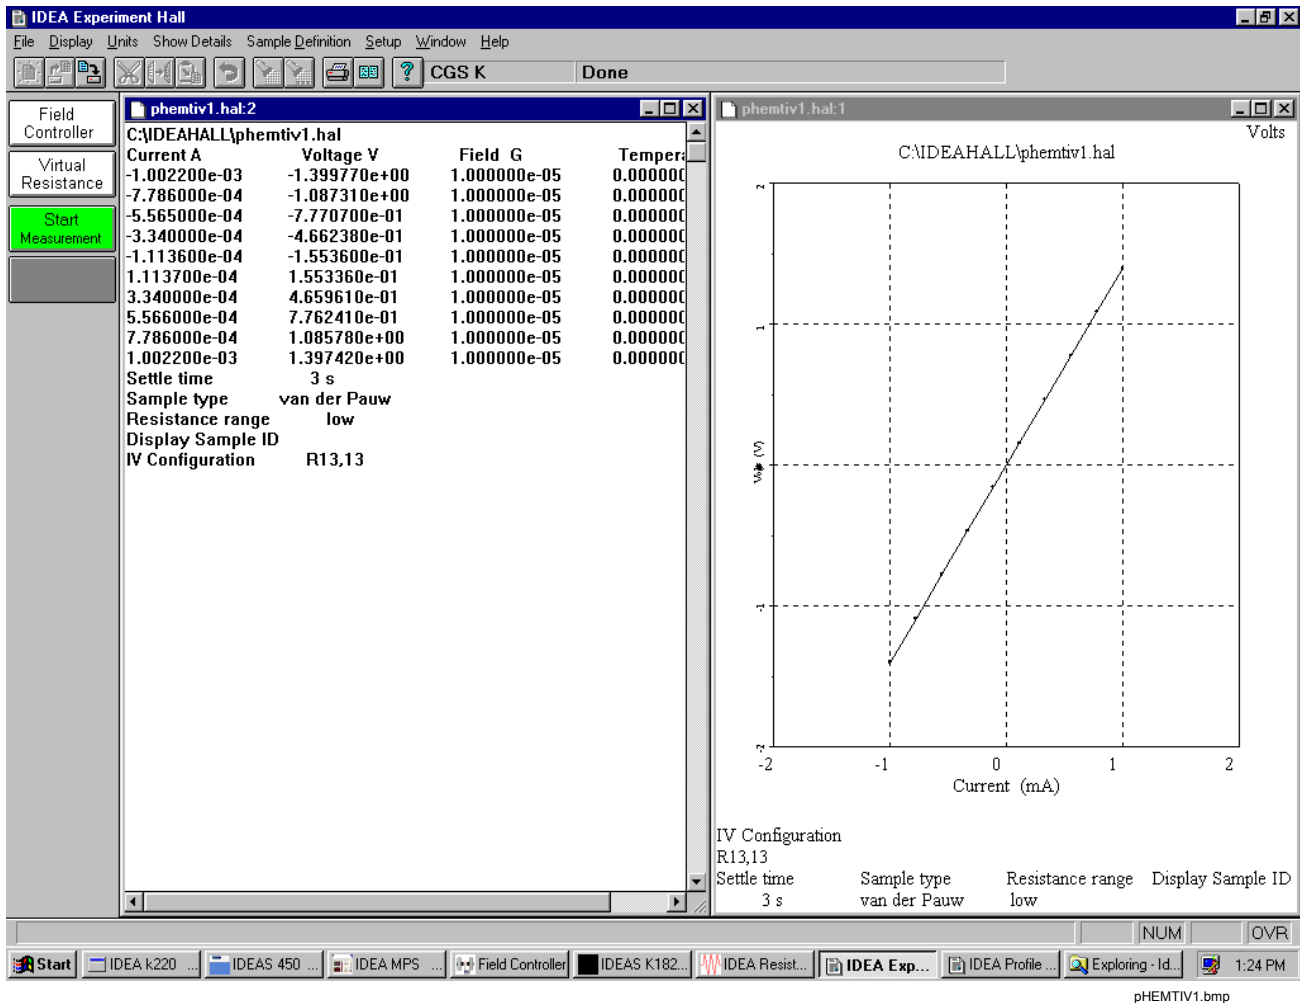

Figure 6-1. R13,13 measurement 'pHEMTIV1.hal' results in the Hall program
11. When the run is Done, check the data and the plot. The results should look similar to those shown in **Figure 6-1**.